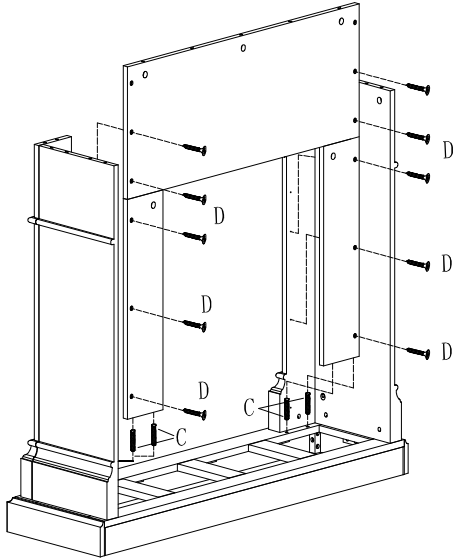

Figure 4
INSERT (A) CAM BOLT & (C) WOOD DOWEL INTO CORRESPONDING HOLES ON TOP PANEL. FIT TOP PANEL INTO PRE-ASSEMBLED UNIT FROM FIGURE 4. INSERT (B) CAM LOCK INTO PRE-ASSEMBLED UNIT FROM FIGURE 4, THEN TIGHTEN ALL CAMLOCKS TO SECURE THE TOP.